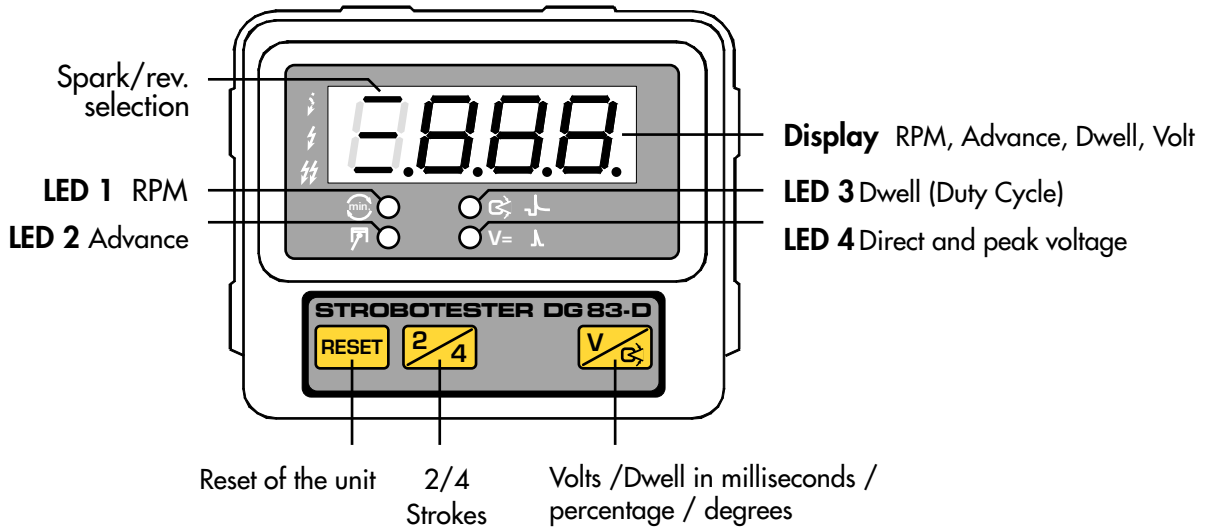

Fig.1
- Lack of signals from the inductive clamp or from the **TL220** cable are shown by a blinking zero on **display 1** and **3** (Fig. 1).
- Fig. 1 shows the displays and the keys for selecting measurements. Special LEDs show the default setting after connecting the unit to battery as well as the type of measurement selected by the operator.